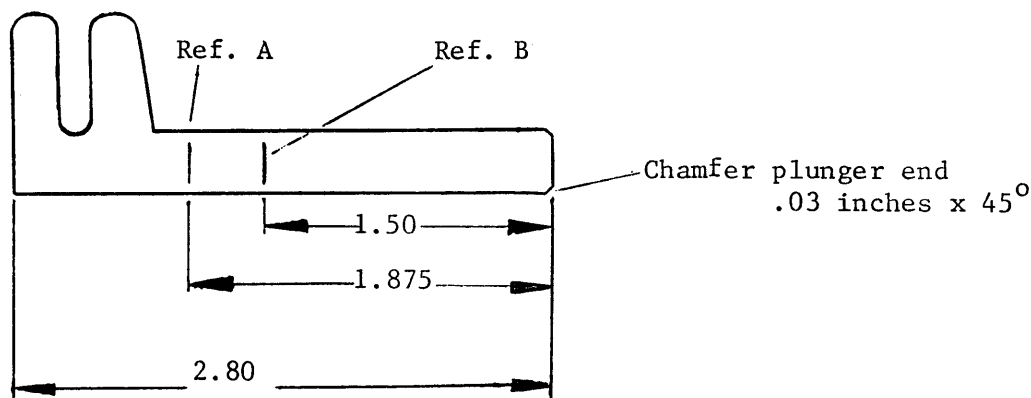

Fig. 1
- (A) REMOVE NACELLE FRONT LOWER FAIRING ASSEMBLY (I.P.C. 71-10-00 FIG. 1 ITEM 5).
- (B) REMOVE ANTI-ICING VALVE FROM FAIRING (I.P.C. 30-20-00 FIG. 1 SHEET 2 ITEM 42).
- (C) WITHDRAW ACTUATING SHAFT (ITEM 46) FROM VALVE BODY BY REMOVING THE SHAFT LOCATING ROLL PIN. (NOT SHOWN AS AN IDENTIFIED PART IN I.P.C.).
- (D) CHECK ACTUATING SHAFT OVERALL LENGTH IS 2.80 INCHES. IF SHAFT IS LONGER (PRE MOD N108) SHORTEN TO 2.80 INCHES BY REMOVING METAL FROM PLUNGER END AND CHAMFER AS IN FIG. 1.
- (E) SUITABLY MARK REF. POINTS A AND B AS DETAILED IN FIG. 1. THESE MARKS INDICATE VALVE FULLY OPEN AND CLOSED POSITIONS WHEN SHAFT IS ASSEMBLED IN VALVE BODY.
- (F) REASSEMBLE VALVE AND REFIT TO NOSE FAIRING. REFIT NOSE FAIRING AND ENSURE THAT ANTI-ICING VALVE FORK IS ENGAGED WITH ACTUATOR PEG.
- (G) MOVE ENGINE ANTI-ICING LEVER IN FLIGHT COMPARTMENT TO OFF. WITH THE AID OF A TORCH AND MIRROR, CHECK THAT THE LINE REF. A FIG. 1 IS NOT VISIBLE. MOVE ENGINE ANTI-ICING LEVER TO ON. CHECK BOTH LINES, REF. A AND B FIG. 1 ARE VISIBLE.
6. (A) RECORD COMPLIANCE WITH THIS ALERT SERVICE BULLETIN IN AIRCRAFT LOG BOOK.
- (B) RECORD COMPLIANCE WITH MOD N108, (SHORTENED ANTI-ICE VALVE SHAFT) IF NOT PREVIOUSLY EMBODIED.